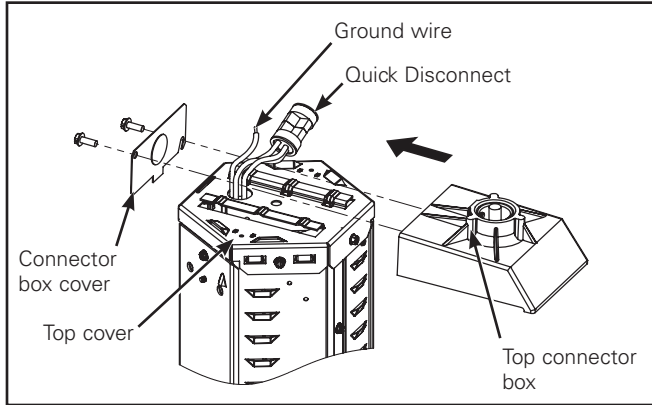

Figure 3.
1. Slide Top connector box onto Top cover (Figure 3).